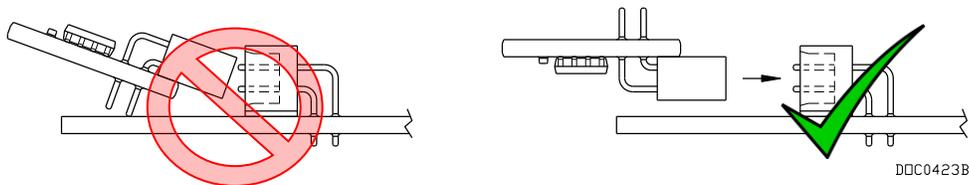

Figure 2-10. License Key Installation
6. Press the license key into the terminal until it is firmly seated. Refer to *Figure 2-10*.